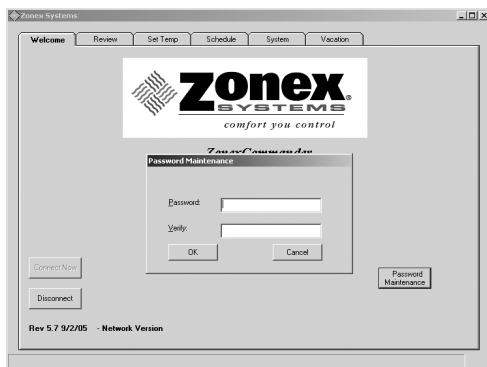

Fig. 2
1. Click on the **Password Maintenance** button on the lower right side of the WELCOME screen. (see Fig. 2)